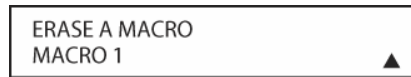

Figure 149
4. The next display screen (**Figure 149**) is where you select which macro will be erased. Press the **▼/▲ Navigation Button [triangle 13]** until the number of the macro you wish to erase appears. For this example we will erase Macro 1 created in the previous section. When the name of the macro to be erased appears, press the **Set Button [triangle 15]**.